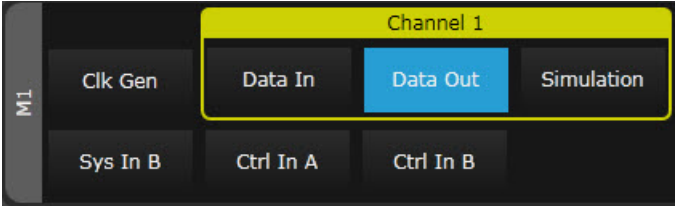

Figure 43 Select Channel 1 DataOut
- 8 Click on **Channel 1 > DataOut** corresponding to the M8041A (M1) as shown in Figure 43 on page -86.